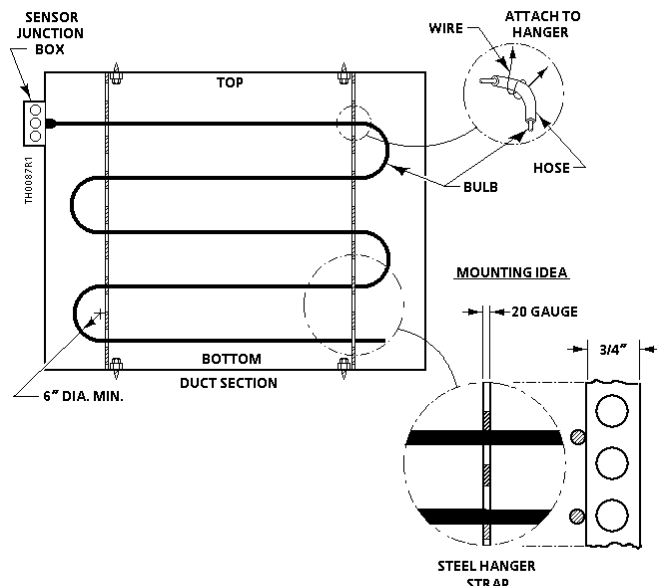

Figure 2. Mounting Option B from Top to Bottom.
Required for inside-access duct mounting, Option B (Figures 2 and 3):
NOTE: The duct sensing element should be mounted in a horizontal, serpentine manner as shown in Figures 2 and 3.
1. Position and mark the screws holes for the two or more steel straps, as shown in Figure 2.